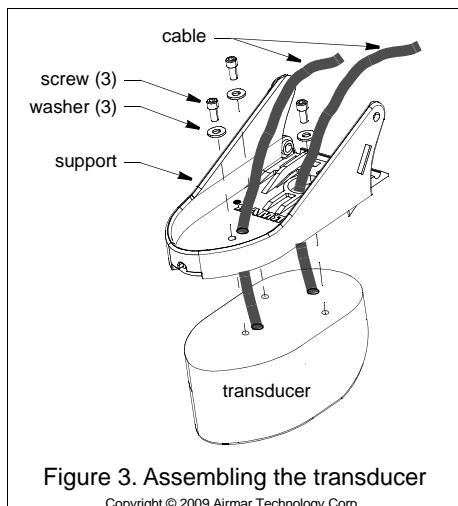

Figure 3. Assembling the transducer
1. There are two cables. Thread each cable through the corresponding hole in the transducer support (see Figure 3).